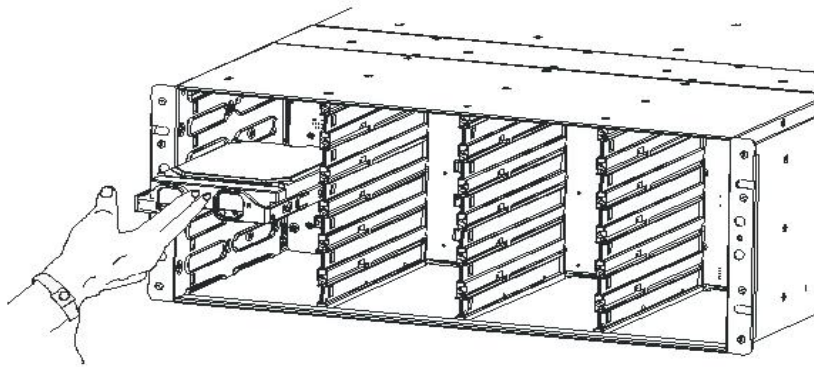

Figure 4-4 Inserting the disk
(1) When the disk is initially inserted, hold the middle of its two sides, align with the disk slot in the chassis, and push the disk into the slot. See the following Figure. 4-4.